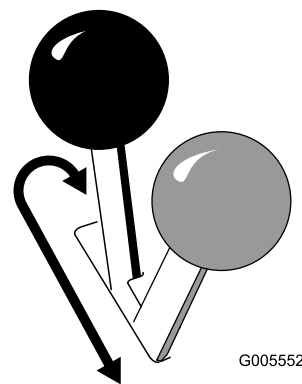

Figure 13
- To engage the parking brake, push the lever forward and to the left and then pull it rearward (Figure 13).
- To release the brake, push the lever forward and then right, into the notch (Figure 13).